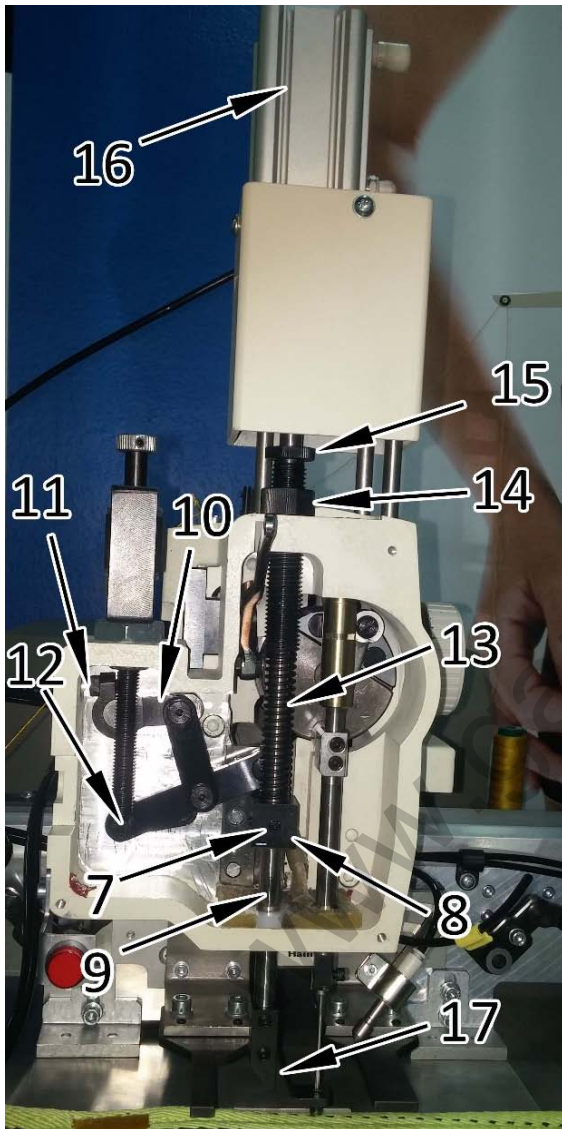
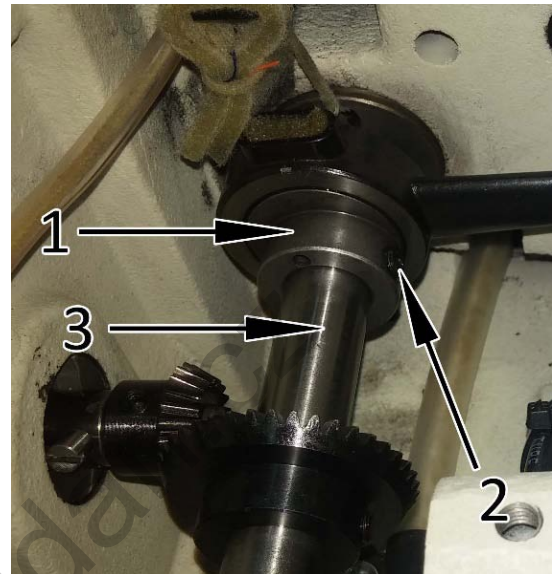

Fig. 21
Fig. 20
- a) Set the needle bar to the Loir reversal point by turning hand wheel. Loosen screws (2) of the eccentric (1) as per Fig.20 and set this eccentric to the position where the presser bar (9) starts moving together with the needle bar or with a little delay (see Fig. 21). The eccentric (1) is placed on the main shaft (3), see Fig. 20.
- b) Set the position of the driver 8 (Fig. 21) on the presser bar (9) to the position where presser foot (17) is on lower position of the presser bar, approximately 1 mm above the needle plate (Fig.13). At tightening the screws (7) check the position of the needle in the middle of the presser foot hole. See Fig. 21.
- d) Movement is transmitted on the lever mechanism through the lever (10) with clamping joint and screw, Fig.21. Distance of presser foot (17) above the needle plate (sewn material) is set by the screw (6) which leans against the pin (12) of the lever mechanism, see Fig. 21.
- e) Lift of the presser bar during exchange of the material, when the machine is not in operation, is performed by pneumatic cylinder (16), see Fig. 21.
- f) Pressure of the presser foot is adjusted by pressing the spring (13). This spring can be adjusted after losing nut (14) by turning the screw (15).